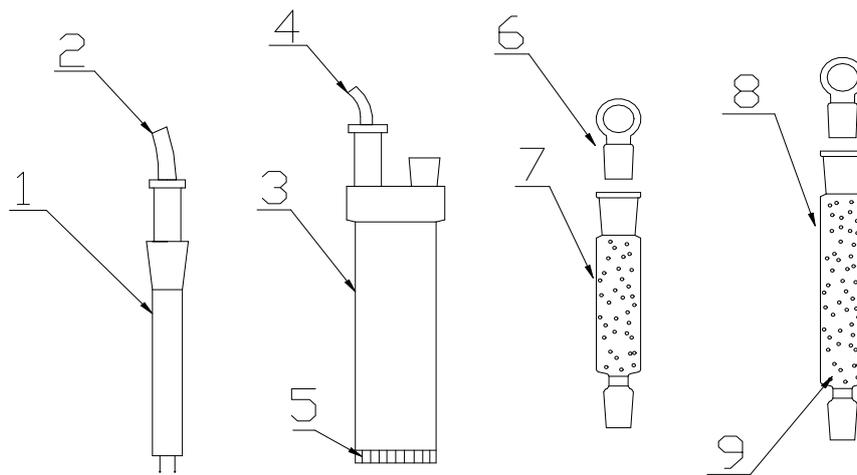

Figure 4-2 Decomposed diagram of electrolytic cell
- (1) Put silica gel particles into the drying tube (Figure 4-2 7,8 shows)